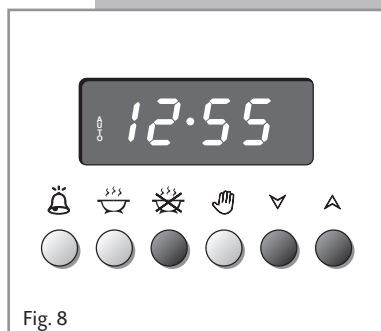

Fig. 8
2. Set the end of the cooking time by pressing the  button (the cooking time already added to the clock time will appear), and the  button (fig. 8); if you pass the desired time you may get back by pushing the  button.